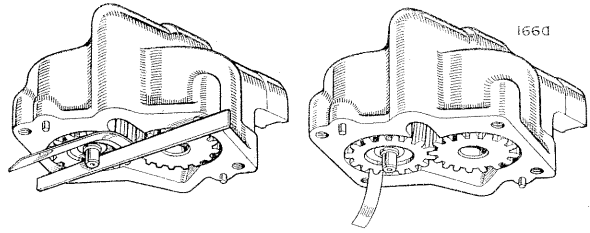

Fig. AO-6—Checking clearance of oil pump gears
5. Check the radial clearance and end-float of the gears as shown in Fig AO-6.